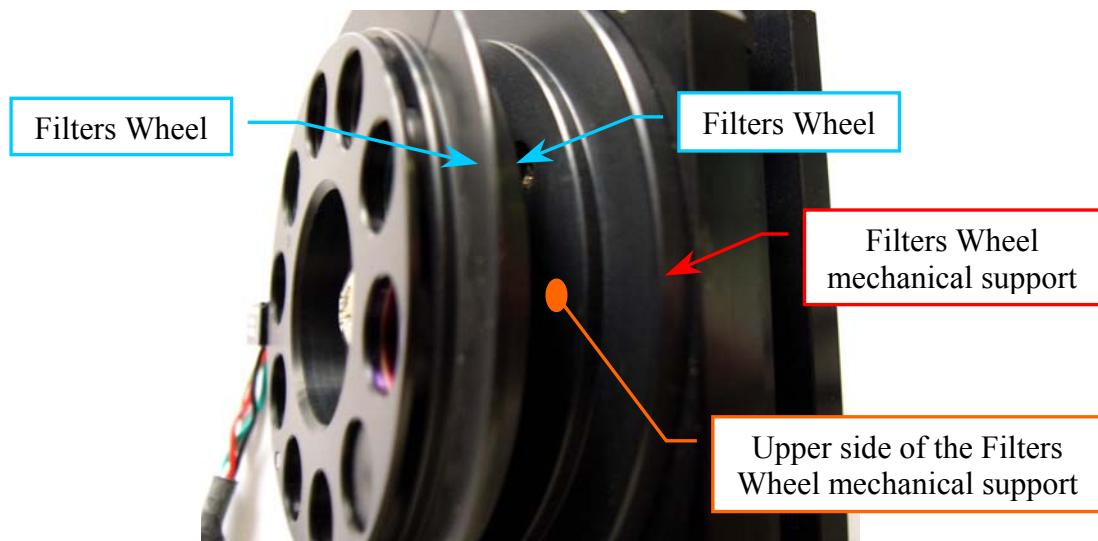

Fig. 60 – Upper side of the Filters Wheel mechanical support
9. Position the Filters Wheel to **0.5 mm** with respect to the upper side of the Filters Wheel mechanical support (Fig. 60) and tighten one of two screws of the Filters Wheel pulley (Fig. 56).